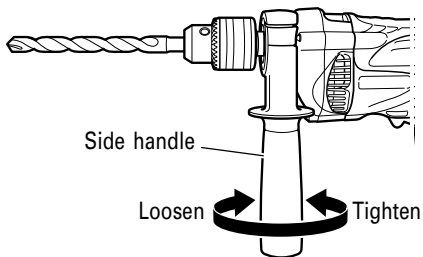

Fig. 6
10. Fixing the side handle (Fig. 6)